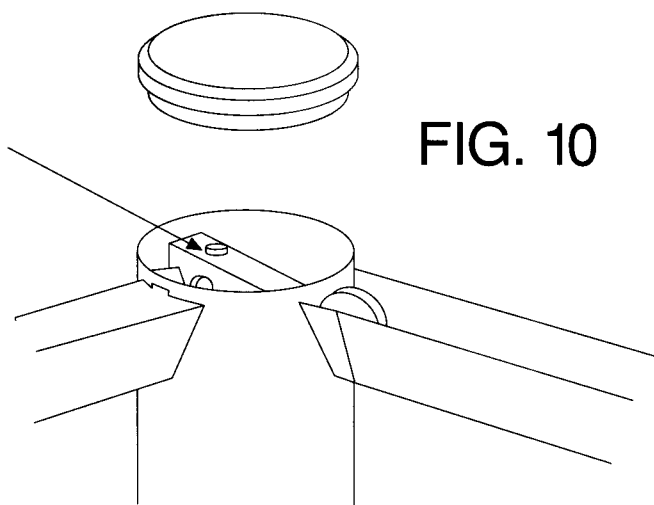
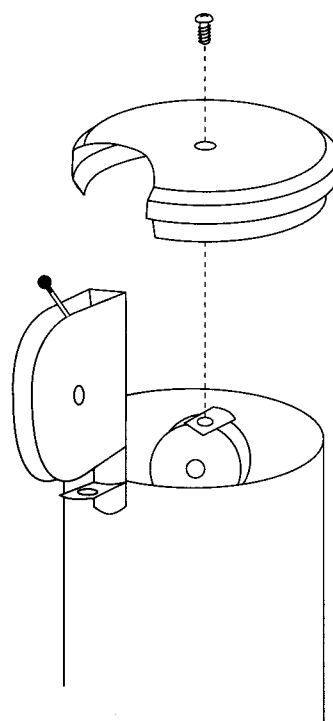

FIG. 10
FIG. 11
26. Adjust the cable system tension as follows. Tighten the adjustable pulley bolt on top of the main column until the weight stack top plate lifts slightly. Loosen the bolt until the top plate just touches the weight plates. Check that the selector pin can be inserted in the weight plates. (Fig. 10)
28. Install column caps on the main column (Fig. 10) and the Ab/Row column. The cap for the Ab/Row column is notched to fit around the Ab pulley and has a hole for a bolt to secure it. Bolt it on 3/8-16 x 1/2 hex screw, Qty: 1). (Fig. 11)